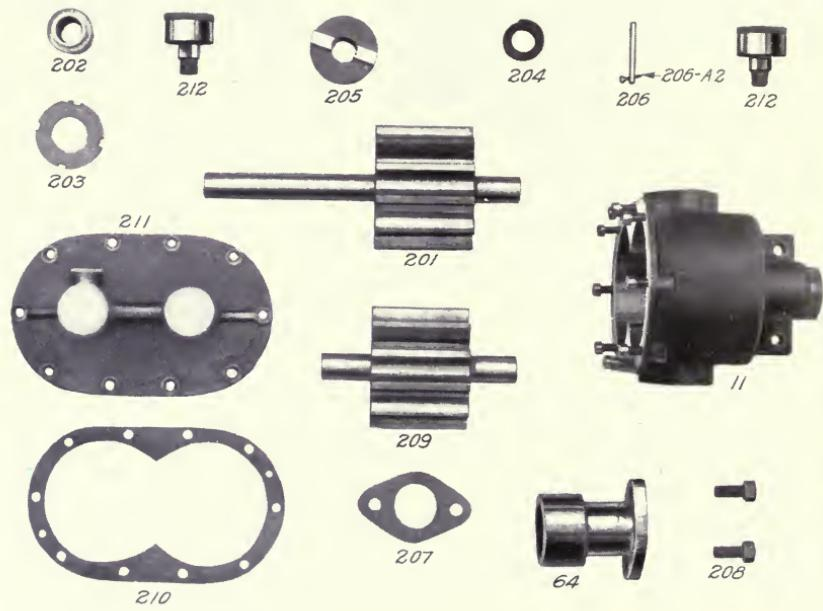

Fig. 38.
**47c. Gear water pump.** (See Fig. 38.)